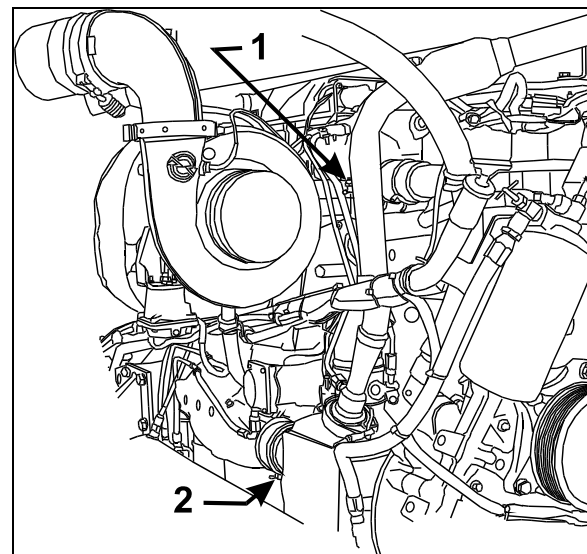

FIGURE 8: ENGINE COOLANT DRAIN COCKS
4. Open drain cock at bottom of thermostat housing to drain the coolant trapped above the thermostats (1, Fig. 8).
5. Open engine drain cock (2, Fig. 8).